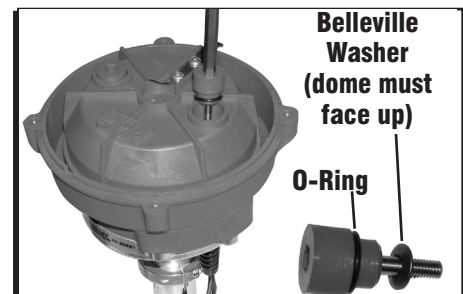

Figure 3 Installing the Rotor
3. Install the new rotor using the correct rotor screws for your application as outlined in the Note at the beginning of this procedure. When using the over molded hex head bolts, install the supplied O-rings and belleville washers (dome side up) as shown in Figure 3, and torque to 30-32 in-lbs. If you are using the Phillips screws, use only the belleville washers.